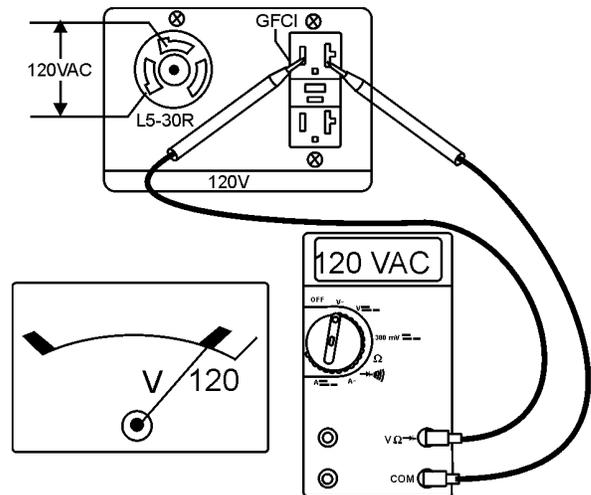

Figure 20. 120 V and GFCI Receptacles
- Read the *voltmeter* on the front panel of the generators (Figure 20) and verify that 120 VAC is present at the 120V twist-lock and GFCI duplex receptacles. For additional verification of voltage, an external voltmeter can be used to measure the output voltage as shown in Figure 20.